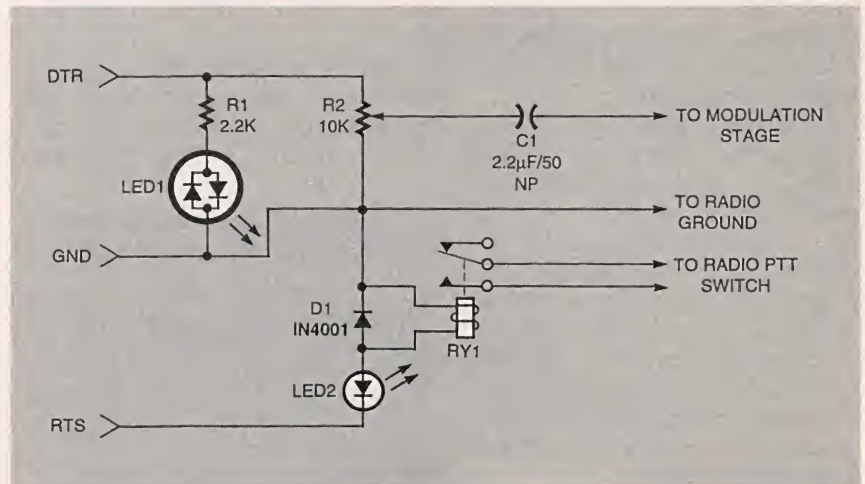

Fig. 1. The interface circuit for the POCSAG encoder is very simple. Light-emitting diodes give a visual indication of activity during transmission.
**The Interface.** Any number of different interface designs between the computer serial port and radio transmitter could be used. A suggested circuit is shown in Fig. 1. That circuit uses a small relay powered directly by the voltage from the serial port's RTS line. The relay provides a reliable switch to turn on and off the radio transmitter. The voltage